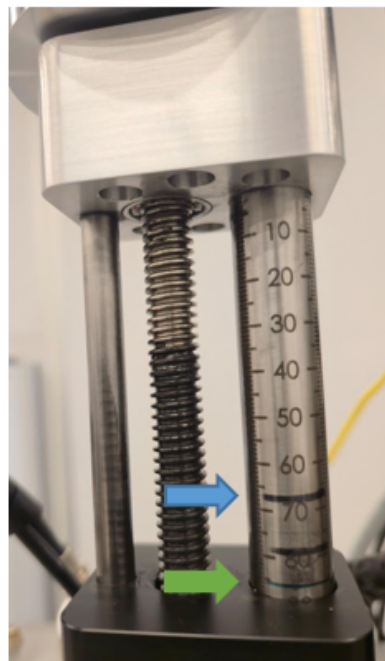

Figure 2: Blue arrow points to the deposition height/transfer position. Green arrow points to the loading/unloading position.
- Sharpie line that is around 67 (see figure 2)
- Should be aligned to the **green** sharpie line around 85 (see figure 2)